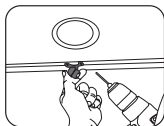

FIG 1
1. Attach tape to the bracket of the camera, and drill a small hole for the first screw **(FIG 1)**.